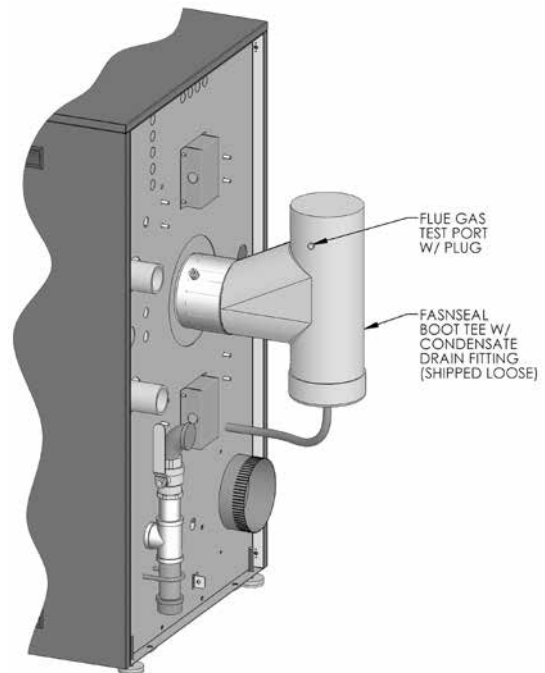

Figure 4
- Remove the plug in the test port provided on the boot tee and insert the probe of the combustion analyzer. See Figure 4 for the test port location.